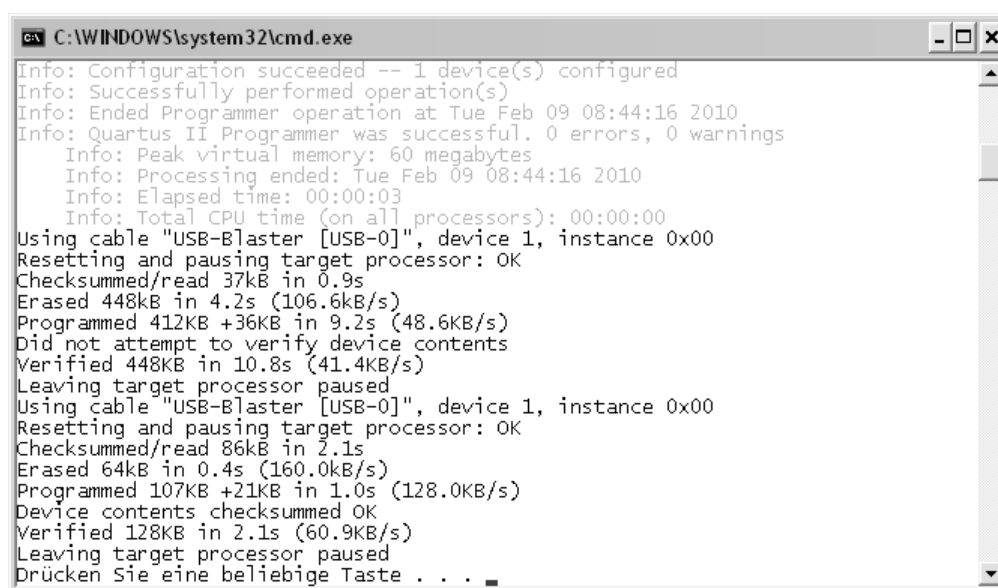

Figure 2: Download and programming of the CANopen example application
3. Use the provided script “program_SlaveDemo.bat” to download and program the reference design and the CANopen example application on the evaluation board (Figure 2).